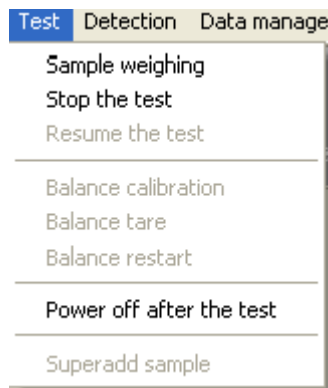

Fig.4-4
4.2.3 Test menu, as shown in Fig.4-4: